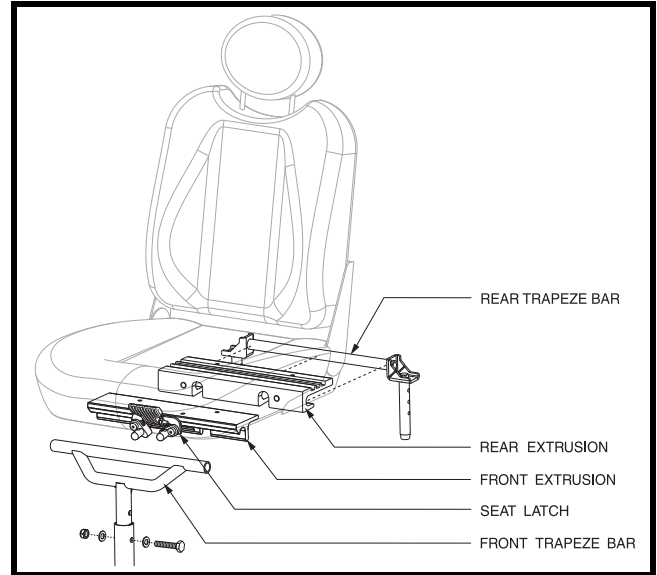

Figure 12. Seat Installation
2. Tilt the seat back, and slide the rear extrusion onto the rear trapeze bar. See figure 12.
4. Flip the seat latch safety down. See figure 12.
The seat is attached to the power base through the UMS. See figure 12. You can change the seat height to one of three positions by raising the front and rear trapeze bars. If you raise or lower only one trapeze bar (front or rear), you can also change the seat base angle (dump).